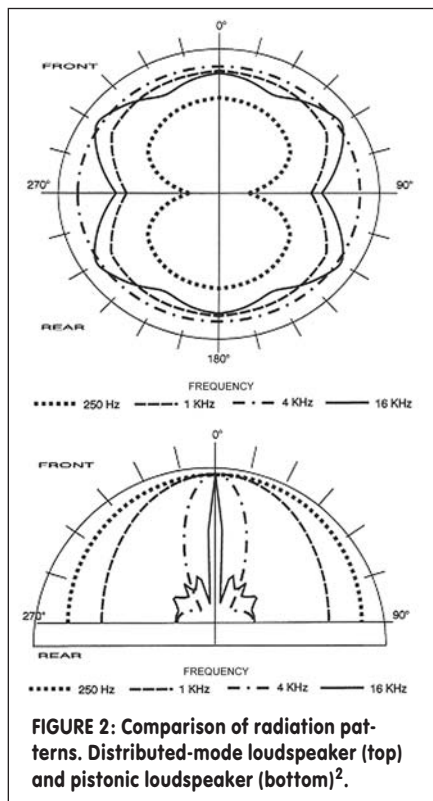

FIGURE 2: Comparison of radiation patterns. Distributed-mode loudspeaker (top) and piston loudspeaker (bottom)².
- Wide directivity—Compared to piston speakers, the DML displays wide directivity (Fig. 2), which is generally independent of frequency.